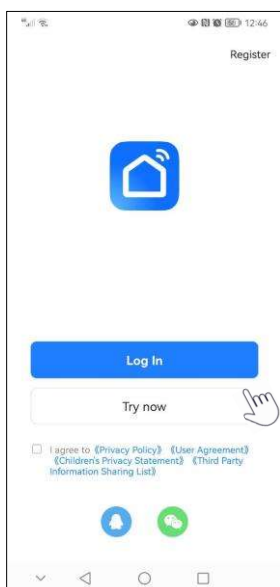
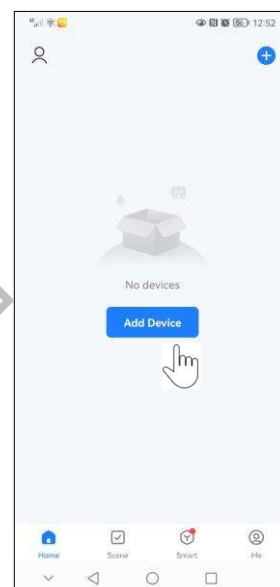

Fig.5 Home page
Fig.8 App homepage
2. After registration, you can log in to the App entering the account you just registered and the corresponding password. Check the agree check box and click <Log In>. Then click <go to App> after the first login is successful. The App homepage is displayed, indicating that no device exists. (Fig.5~Fig.8)
3. Open the App and click <Add device> on the home page (Fig.8). If bluetooth is not enabled on your phone, the system will prompt you to enable Bluetooth first;